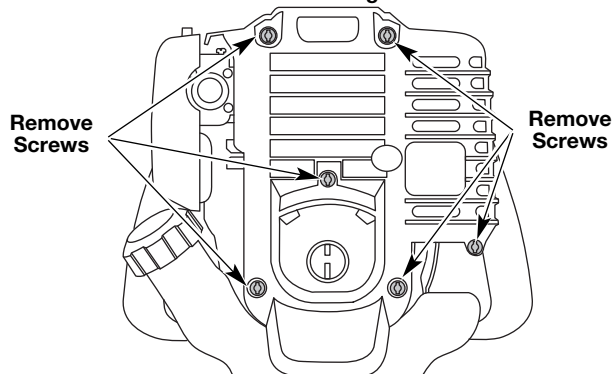

Fig. 34
1. Remove the six (6) screws on the back of the engine cover with a Flat-head or T-25 Torx screwdriver (Fig. 34).
4. Remove the engine cover (Fig. 34).
1. Stop the engine and allow it to cool. Remove the six (6) screws on the back of the engine cover with a Flat-head or T-25 Torx screwdriver (Fig. 34).